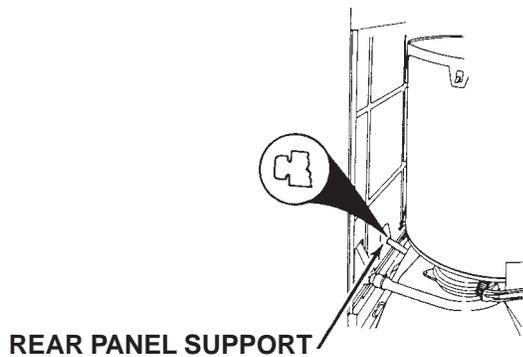

Fig. 3-11
- The rear panel can be tilted back for additional access to components at rear of machine by twisting the rear panel support 90°, and then tilting the rear panel back. (Fig. 3-11)